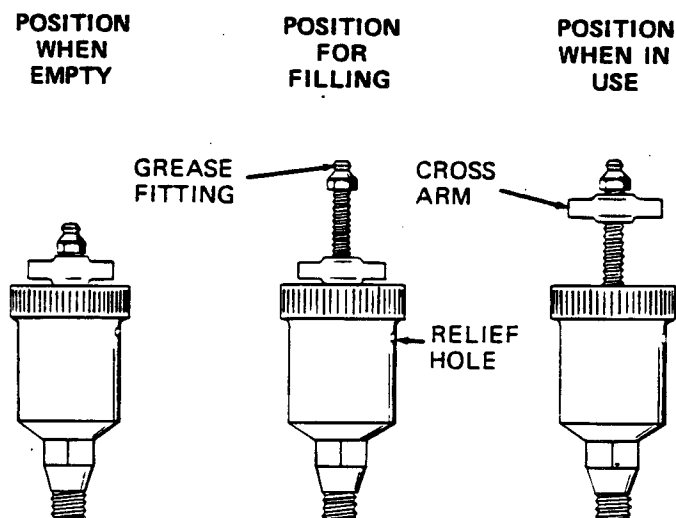

Figure 4. Automatic Lubricating Grease Cup
Turn the cross arm on the automatic lubricating grease cup (10) clockwise until it rests against the cover (see Figure 4). This will prevent the grease from escaping when the impeller is removed.
Fill the grease cup through the grease fitting with a good grade of No. 2 lithium base grease until grease escapes from the relief hole. Turn the grease cup arm counterclockwise until it is at the top of the stem; this will release the spring to apply grease to the seal (see Figure 4).